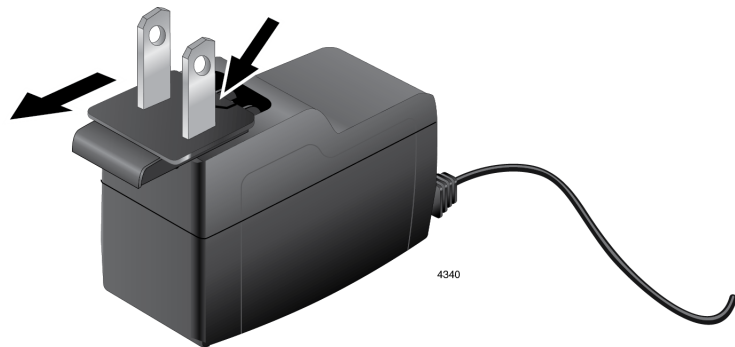

Figure 15. Detaching the AC Plug from the AC Adapter
2. While pressing the release tab with your thumb, slide the AC plug as shown in Figure 15.